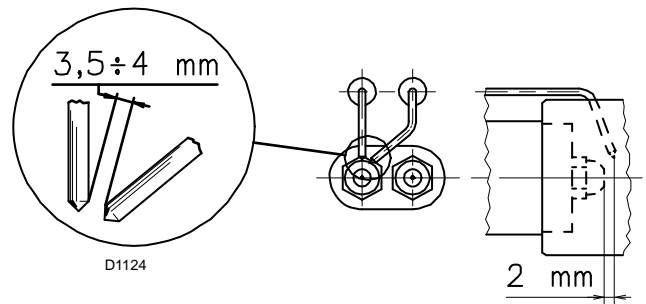

Fig. 13
Check that the electrodes are positioned correctly, as in Fig. 13, complying with the dimensions indicated.
- The nozzle for the 1st stage of operation is the one beneath the ignition electrodes, Fig. 13 on page 18.